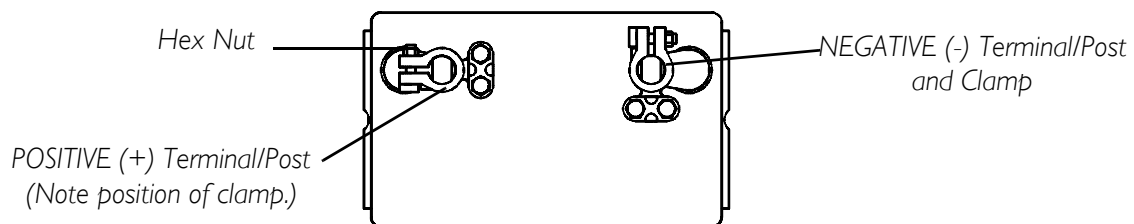

FIGURE 12.8 Connecting Battery Cables - Battery Clamp Method
- Dual Group 22NF Batteries without Mounting Holes in the Terminal(s)/Post(s) - Use battery clamp method described on page 60. Refer to FIGURE 12.8 and FIGURE 12.9.
The battery clamp of the **POSITIVE (+)** battery terminal/post **MUST** be mounted in the position shown in **FIGURE 12.8**. Otherwise, the battery box top cannot be installed properly.
NOTE: For this procedure, refer to FIGURE 12.8 and FIGURE 12.9 on page 62.
- If the battery clamp of the POSITIVE (+) battery terminal/post is NOT mounted in the orientation shown in FIGURE 12.8, perform the following:
- iii. Reposition the battery clamp on the POSITIVE (+) battery terminal/post as shown in FIGURE 12.8.
- If the battery clamp on the POSITIVE (+) battery terminal/post is positioned as shown in FIGURE 12.8, proceed to STEP 2.